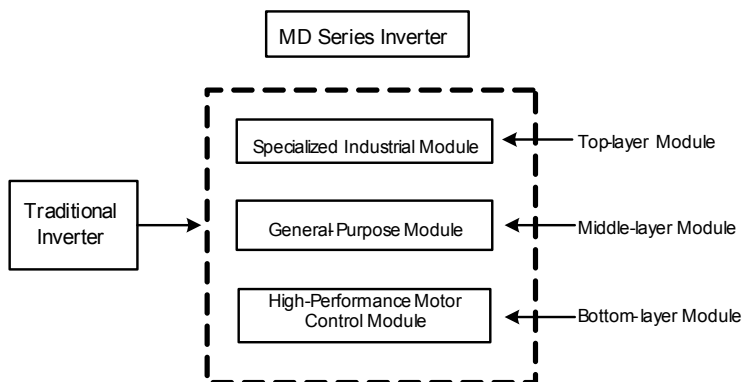

Fig. 1 Comparison between Traditional Inverter and MD Series Modular Inverter
- 1) It creates the three-layer modular structure standard of new generation of inverter. Refer to Figure 1 for the comparison between traditional inverter and MD series modular inverter;